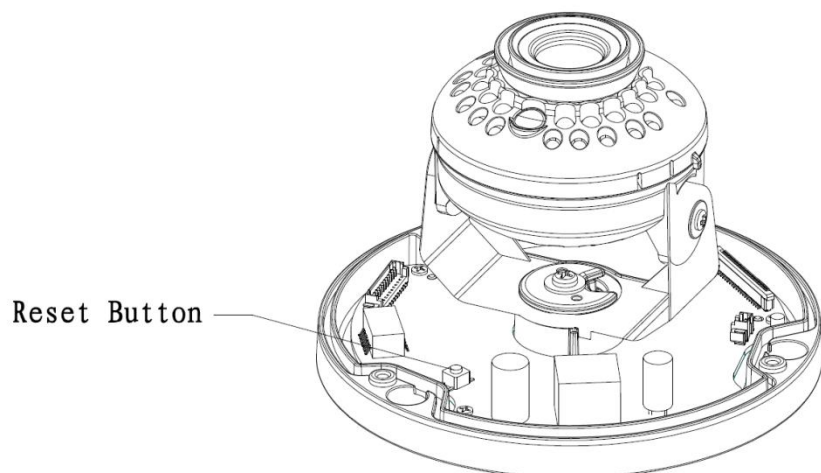

Figure 2-2
- Long press the “Reset button” shown in Figure 2-2 for 10 seconds when the device is powered on if the device needs to be restored to the factory default setting.